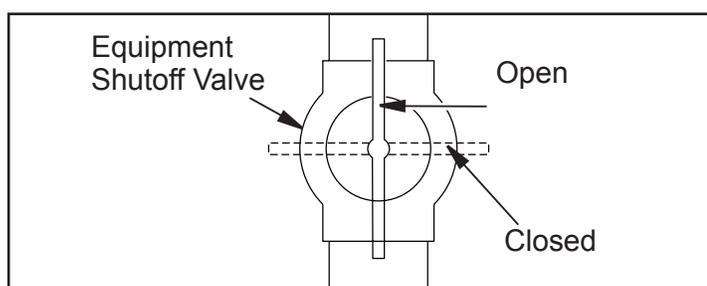

Figure 28 - Equipment Shutoff Valve
1. Close equipment shutoff valve (see Figure 28).
1. Open equipment shutoff valve (see Figure 28).